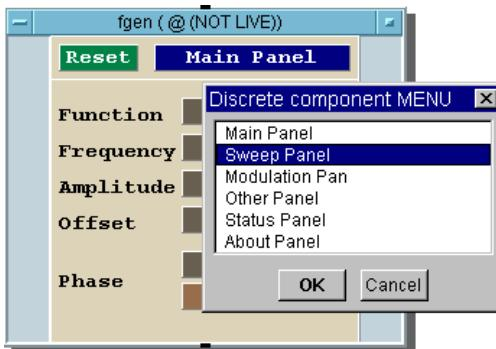

Figure 3-13. Sweep Panel in Discrete Component Menu
1. In the **Panel Driver** object, click **Main Panel** and select **Sweep** in the **Discrete Component MENU** presented as shown in Figure 3-13.